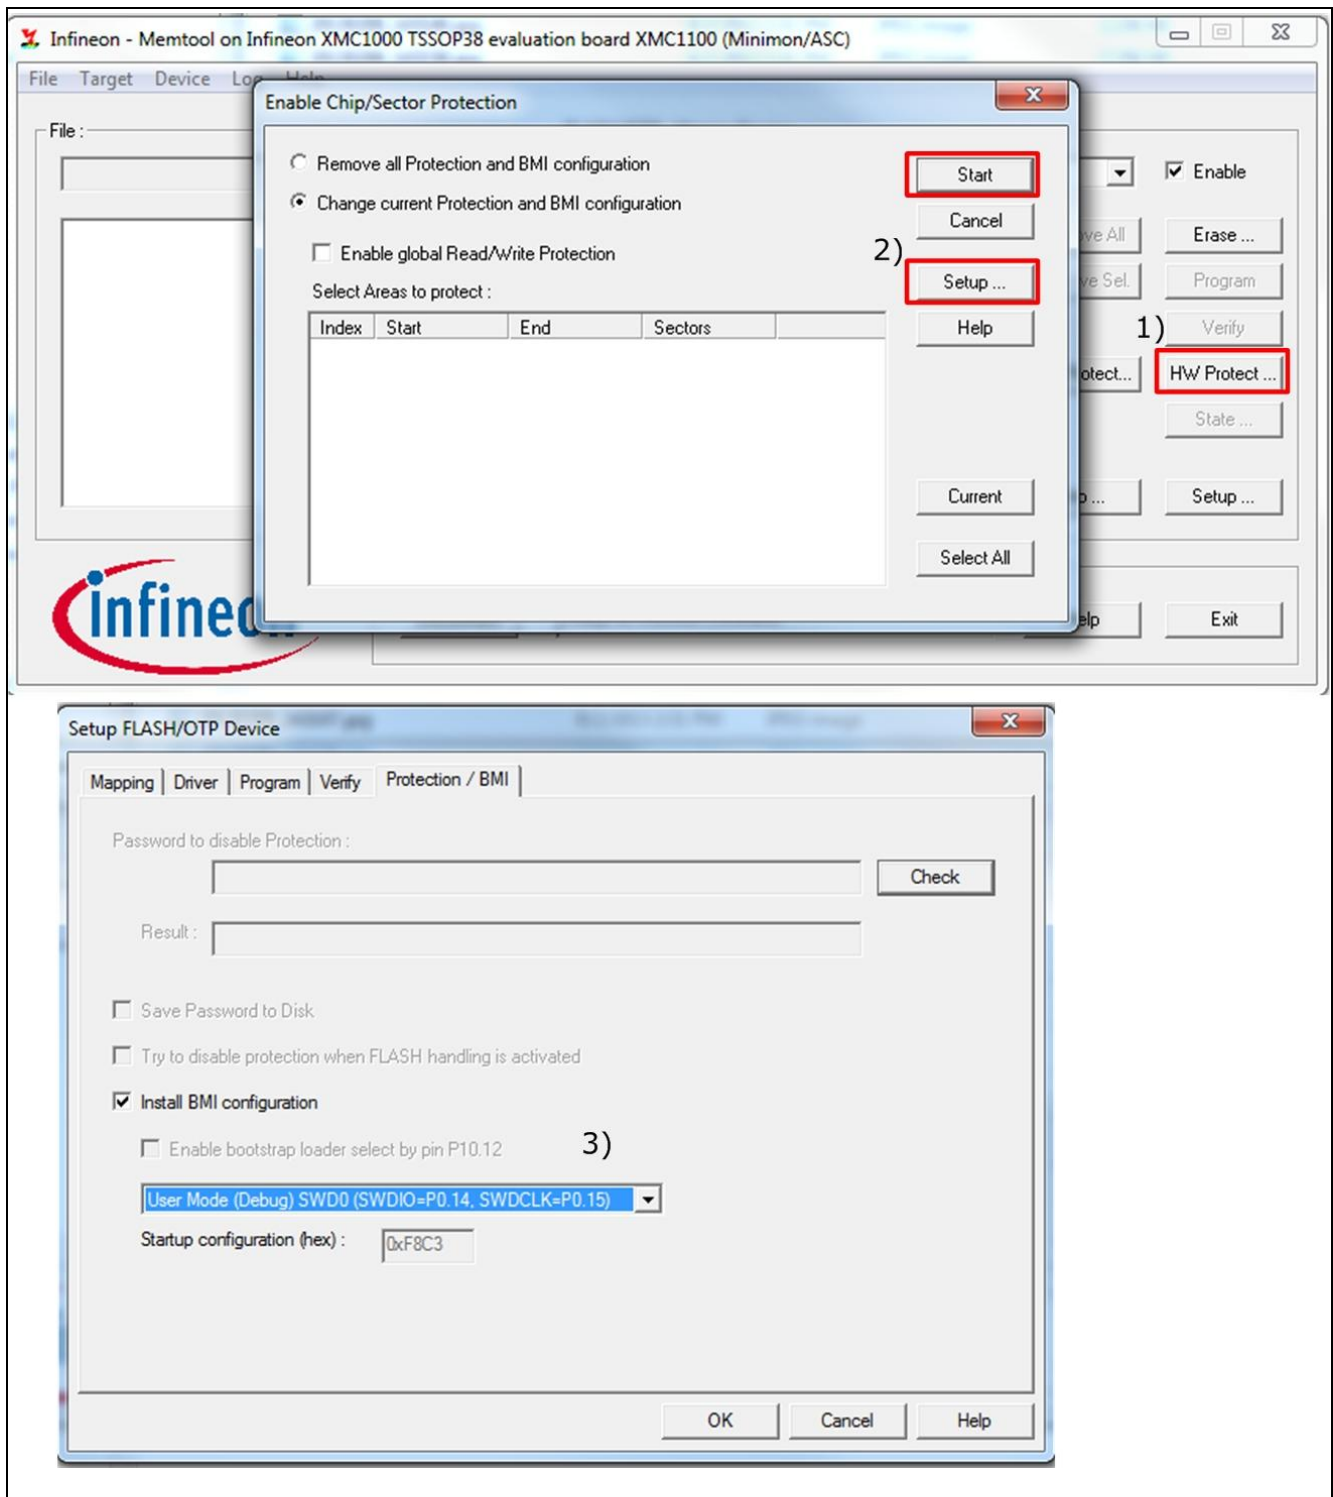

Figure 7 Using Memtool to change the BMI value
2. Click the Setup... button of GUI 2) of **Figure 7**.
3. From the pull-down menu of GUI 3) of **Figure 7**, user can choose the BMI value that he wanted.
4. Clicks the Start button of **Figure 7** GUI 2) and the BMI of the XMC1000 device is changed.